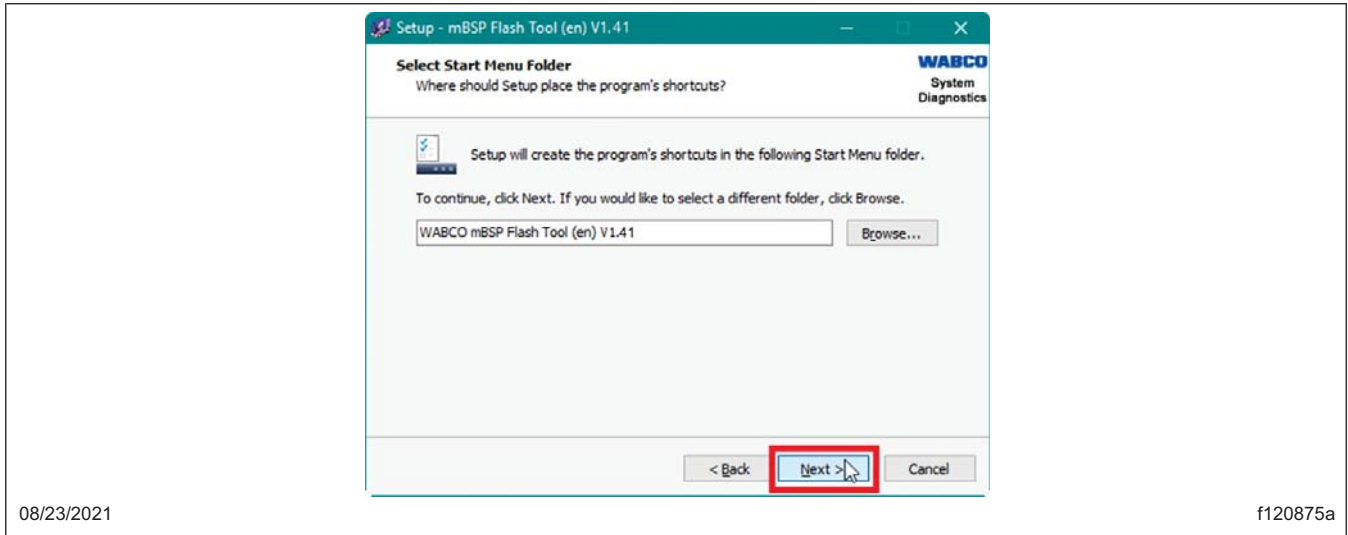

Fig. 15, Selecting the Start Menu Folder
7.9 The 'Select Start Menu Folder' window will appear, select 'Next.' See Fig. 15.